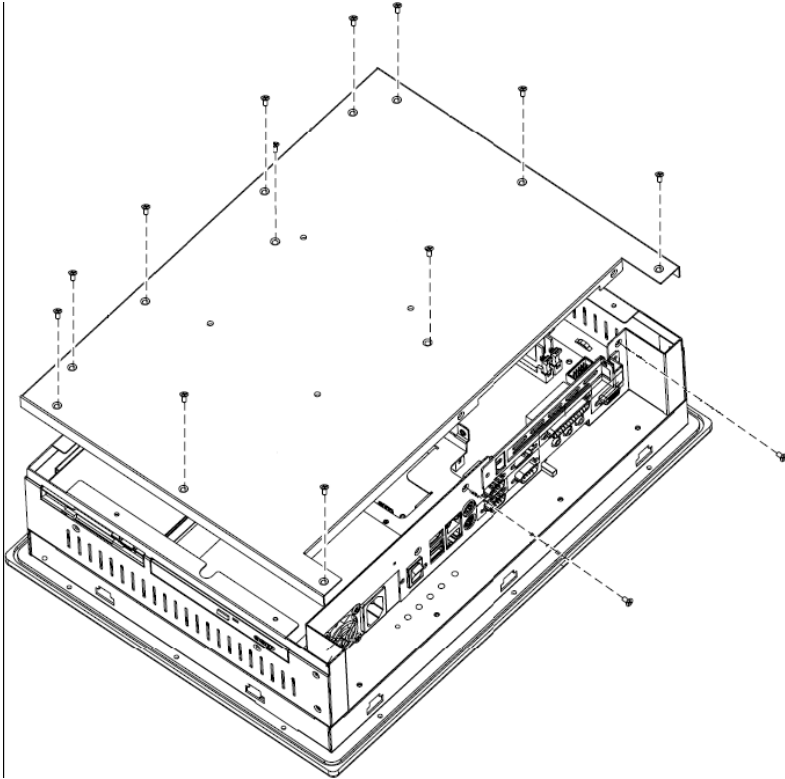

Figure 4-1: Rear Cover Retention Screws (Real Panel)
Step 2: The back cover is secured to the chassis with nine retention screws, eight on the rear panel and one on the bottom panel. (See **Figure 4-1**) Remove the nine retention screws and lift the cover off the IVC-19PC-P.